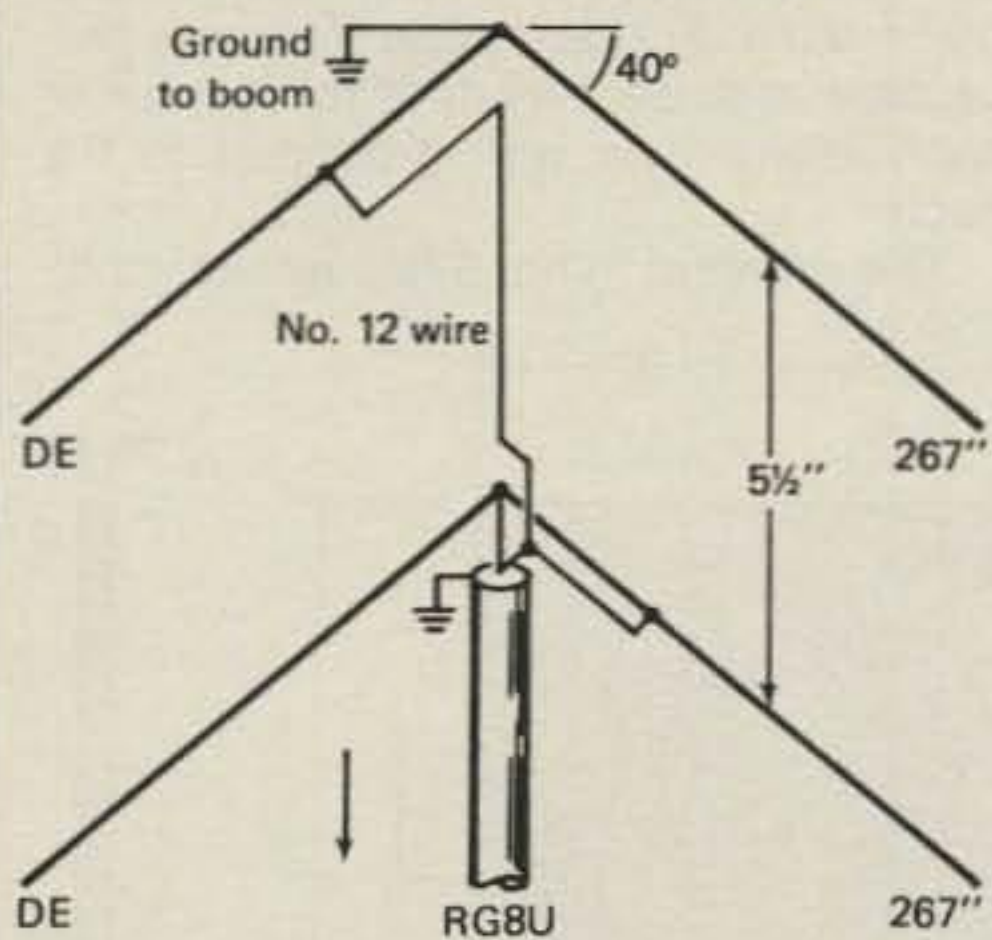

Fig. 1- This was constructed to test the theory of "V" beam operation. It proved forward gain and front-to-back ratio.
I started off first by bending the antenna elements forward 40° to determine if the reported 3 to 5 dB additional gain actually could be realized. The first antenna was a two-element antenna with both elements of equal length (fig. 1). This proved two things: (1) that front-to-back ratio could be obtained, and (2) that good forward gain could be achieved. They both were justified in this design.